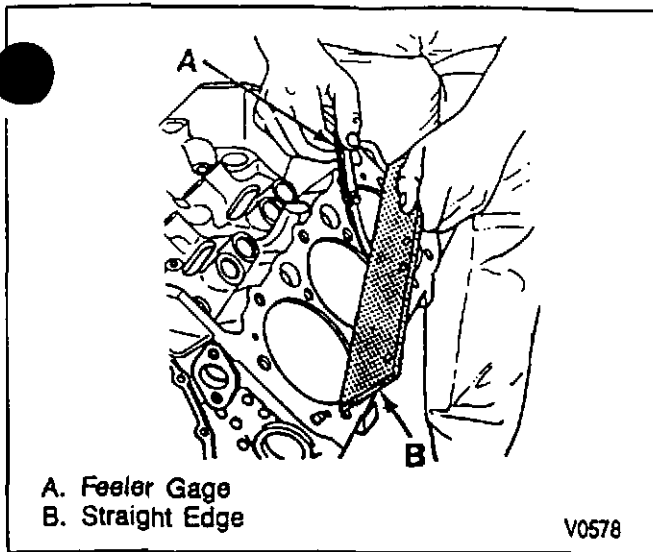

Figure 20—Measuring Block Surface Flatness
5. Cylinder head mounting surface for flatness, using a precision straight edge and feeler gage (figure 20).